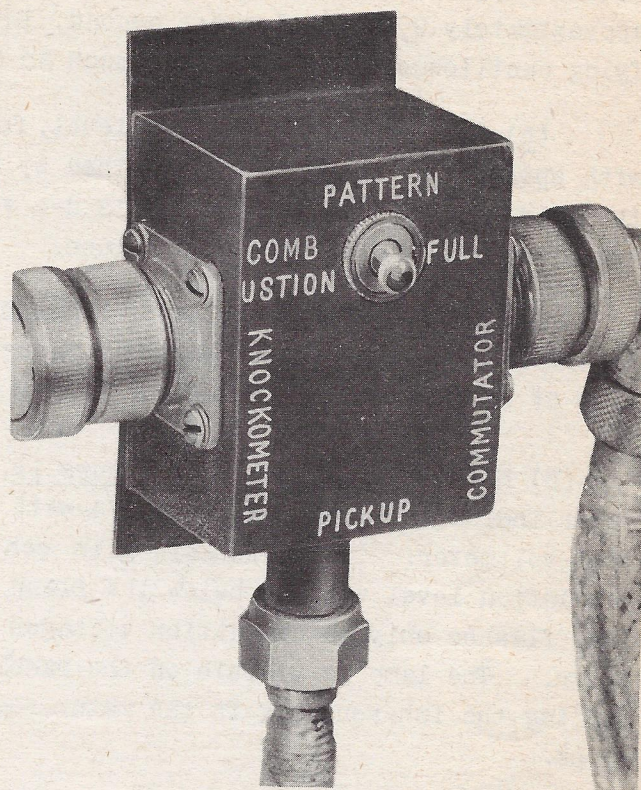

Figure 10 - The Junction Box
c. JUNCTION BOX. (See figure 10.) - The junction box accepts cables from the pick-up, the commutator, and the amplifier; the receptacles are clearly marked. It also incorporates a switch marked "PATTERN."
(1) In the "COMBUSTION" position of this switch, the commutator is placed into the circuit so that only the combustion period signals pass through the system.
(2) In the "FULL" position, the switch allows all signals to pass through. This position is used when the amplitude pattern for 720 degrees of crankshaft rotation is to be impressed on the oscilloscope for checking the timing of the commutator, for checking the operation of the Knockometer, or for detecting the malfunctioning of the engine.